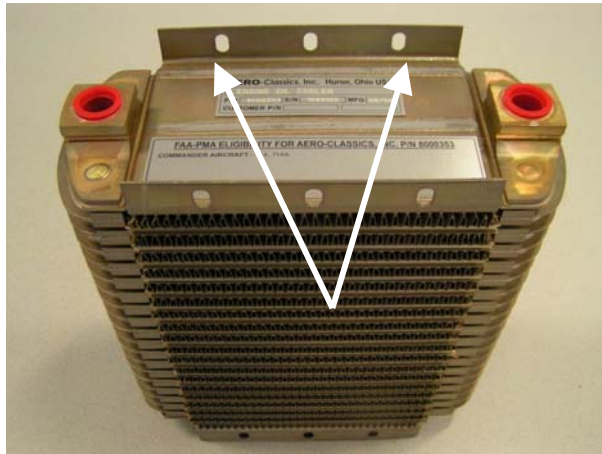

Fig. 1: Oil cooler, typical crack locations
- Check oil cooler for cracks, especially around the attachment flanges, see Figure 1.